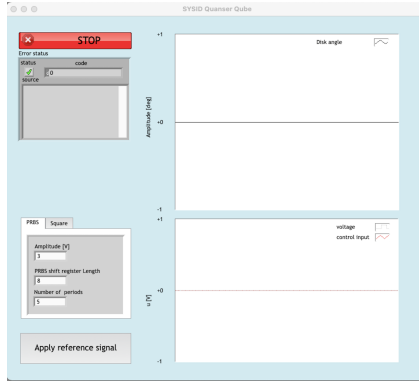

Figure 2. GUI for data collection
1. Open the file named `Main.vi` located inside the `SYSID` folder on your desktop. The GUI in Fig. 2 will appear allowing one to apply a PRBS input to the system and record the output response.